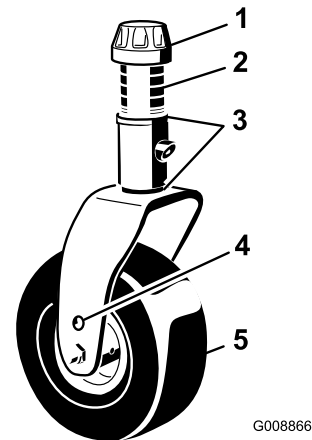

Figure 23
3. Remove the tensioning cap from the castor shaft (Figure 23). and slide the shaft out of the castor arm. Put 2 shims (1/8 inch [3 mm]) onto the castor shaft as originally installed. Slide the appropriate number of 1/2 inch spacers onto the shaft to get the desired height-of-cut.
the remaining spacers onto the shaft. Install the tensioning cap to secure the assembly (Figure 23).